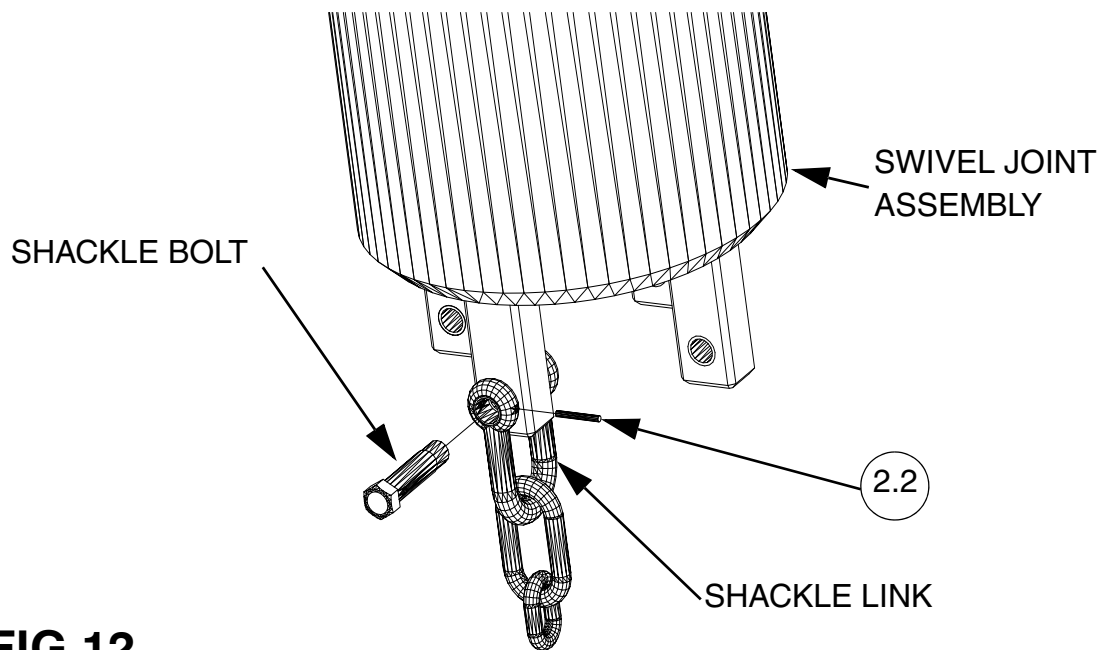

FIG.12
- i) Tap out roll pin (item 2.2) using suitable punch from shackle assembly (item 2.1). (FIG.12)
- ii) Unscrew shackle bolt and remove from shackle. (FIG.12)